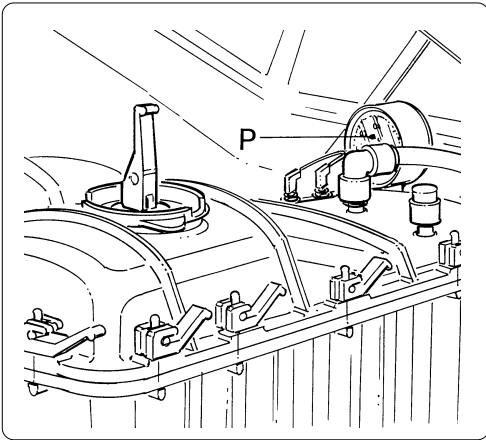

Fig. 11
When the machine is started up with the main switch (as mentioned in the previous paragraph), the CO₂ will begin to enter the relative tanks until it reaches the maximum designated pressure. A safety mechanism will ensure the pressure inside the tanks never exceeds 0.3 bar. The gauge (P) ensures the pressure inside the tanks is continually monitored (fig. 11).